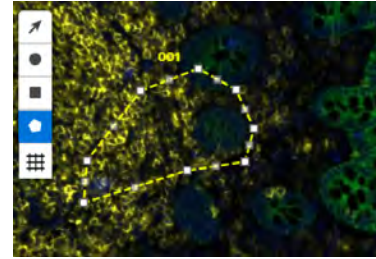

Figure 32: Scan Workspace polygon button
1. **Select the polygon button** from the Scan Workspace (see Figure 32).